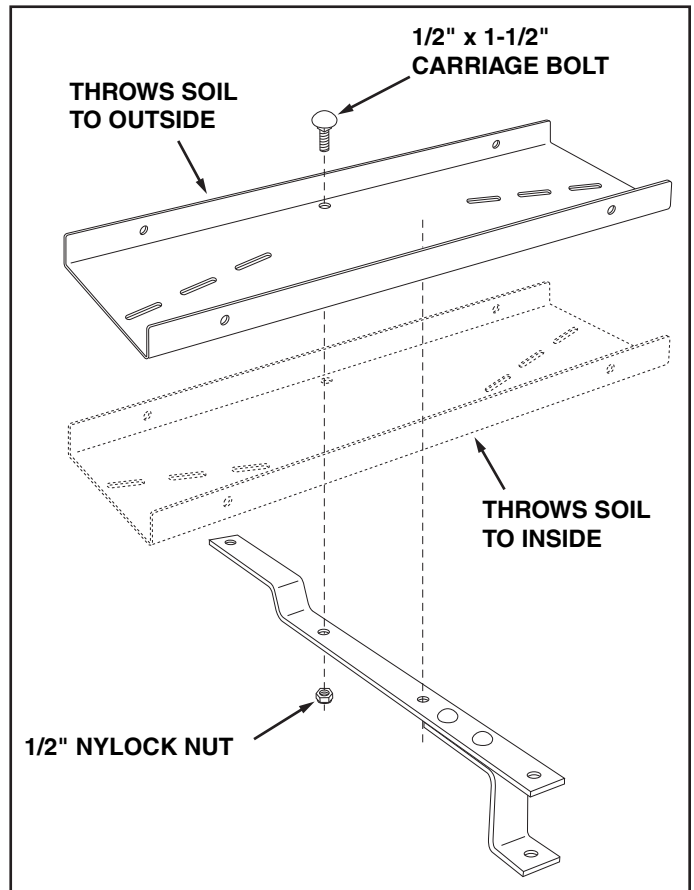

FIGURE 3
4. Position the tray with the slots angled either toward rear center or front center as shown in figure 3. (Refer to Operation section on page 6 for more information.) Assemble the drawbar to the bottom of the tray using two 1/2" x 1-1/2" carriage bolts and 1/2" nylock nuts. See figure 3.